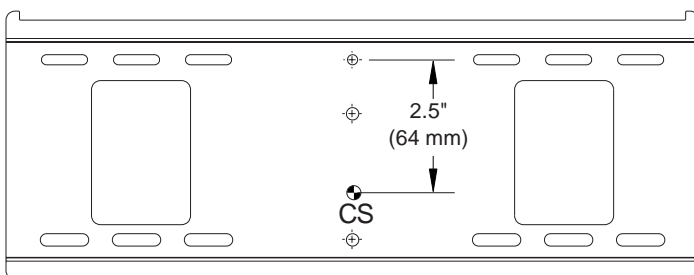
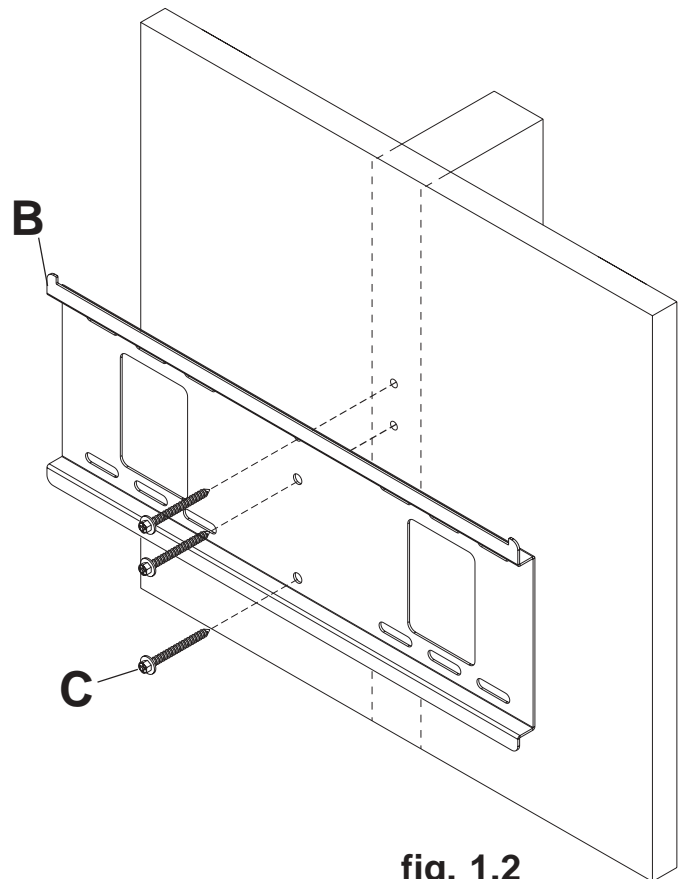

fig. 1.1
fig. 1.2
1 Use a stud finder to locate the edges of the stud. Use of an edge-to-edge stud finder is highly recommended. Based on its edges, draw a vertical line down the stud's center. Place wall plate (**B**) on wall as a template, making sure that the three mounting holes are over the stud centerline. The top mounting hole should be 2.5" above the desired screen center as shown in figure 1.1. Level plate, and mark the center of the three holes. Drill three 5/32" (4 mm) dia. holes 2-1/2" (64 mm) deep. Make sure that the wall plate is level, secure it using three #14 x 2.5" wood screws (**C**) as shown in figure 1.2.
- 1 Make sure that wall plate (B) is level, use it as a template to mark four mounting holes. The top mounting hole should be 2.5" above the desired screen center as shown in figure 1.1 on page 4. Drill four 1/4" (6 mm) dia. holes to a minimum depth of 2.5" (64 mm). Insert anchors (D) in holes flush with wall as shown (right). Place wall plate over anchors and secure with #14 x 2.5" screws (C). Level, then tighten all fasteners.